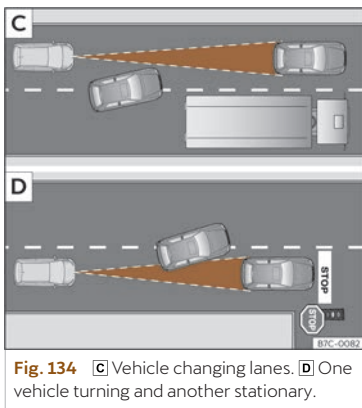

Fig. 134 [C] Vehicle changing lanes. [D] One vehicle turning and another stationary.
- Vehicles that move into your lane, a short distance from your vehicle >>> **Fig. 134 [C]**.
The ACC may not react to stationary vehicles. If, for example, a vehicle detected by the ACC turns or moves over and there is a stationary vehicle in front of it, the ACC will not react to the second vehicle >>> **Fig. 134 [D]**.